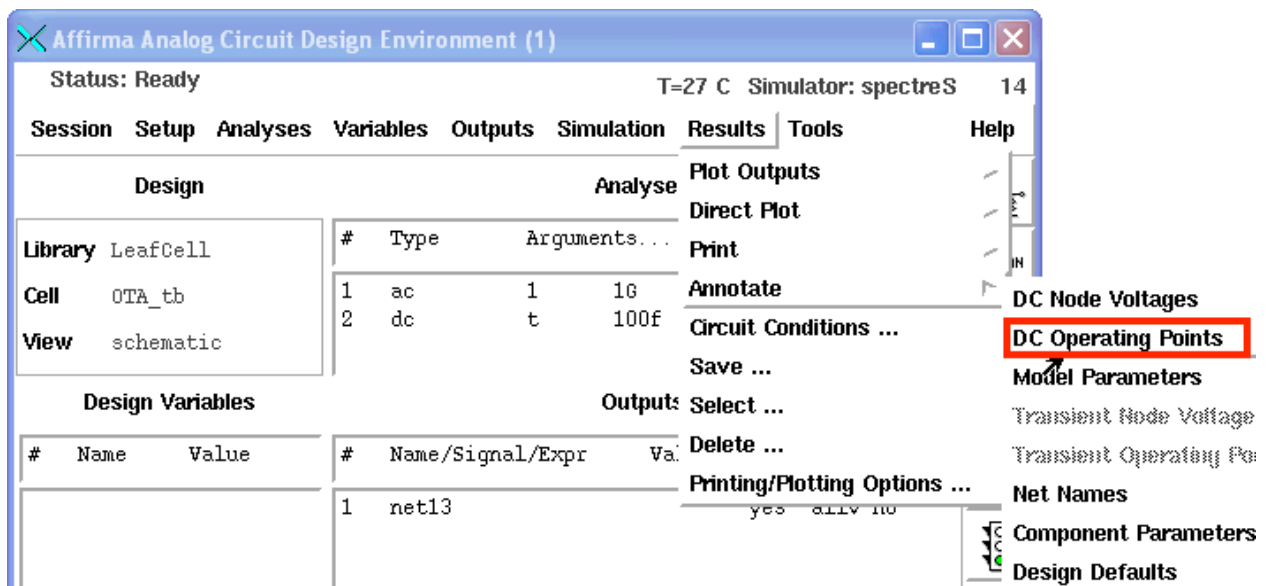
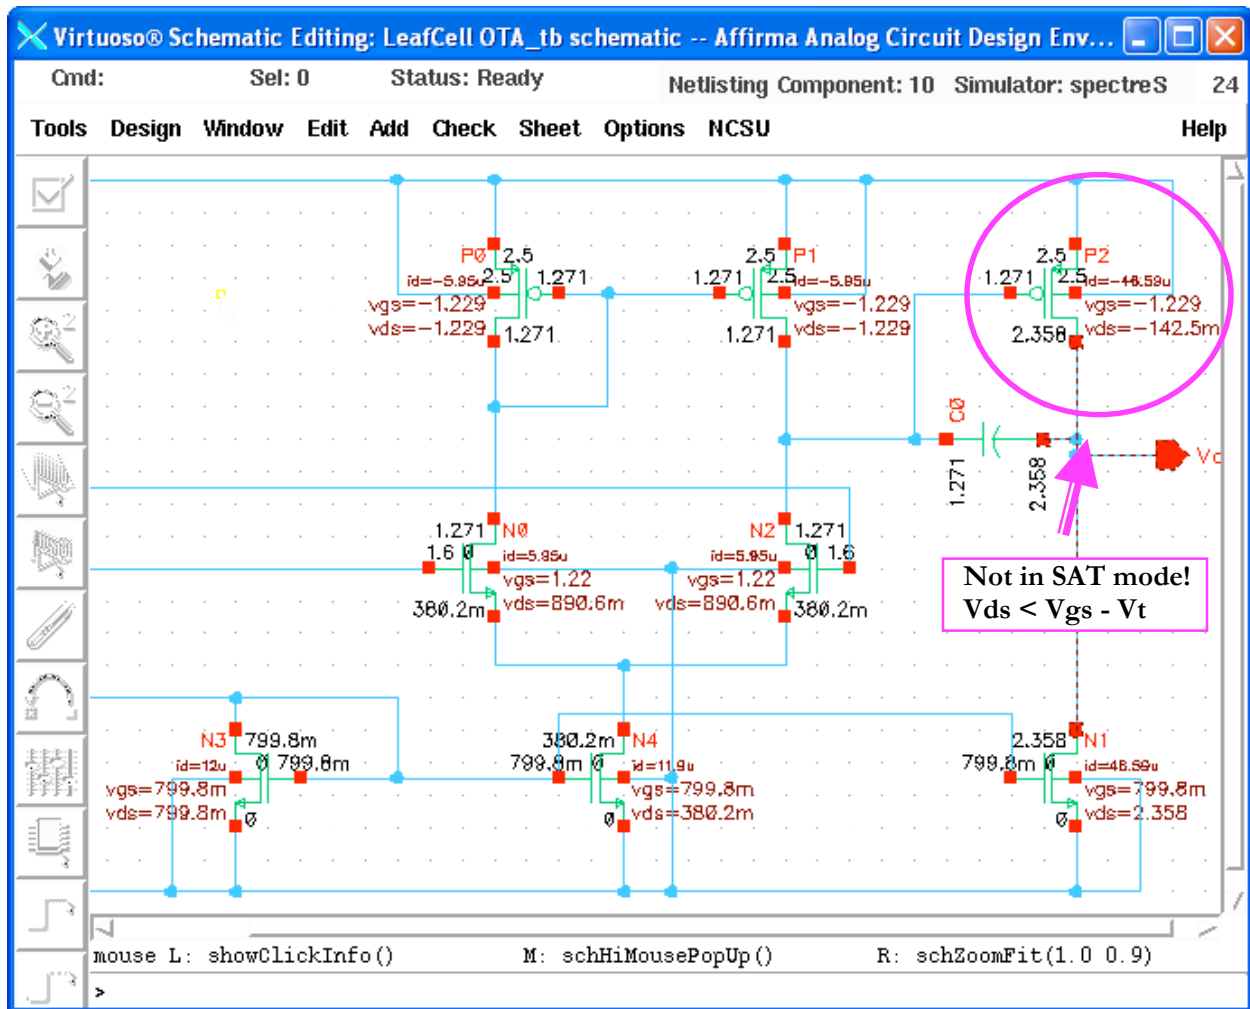

Figure 147: Setting up to show the DC operating points for the transistors.
Figure 149: Descend OTA schematic view with transistor operating points.
14. In order to find out if the transistors are working, we can check their operating points. In the *Affirma Analog Environment* form, click at *Results...Annotate...DC Operating Points...*, (Figure 147).
then click OK. Go back to the Affirma Analog Environment form, click at Results...Direct Plot...AC Magnitude & Phase one more time (Figure 147). The schematic view of the OTA will then be shown with all the operating points for the transistors (Figure 149).